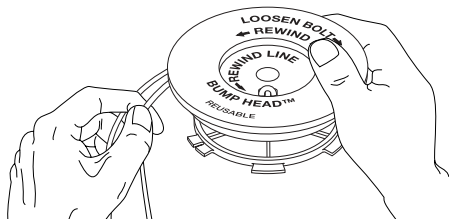

Fig. 29
- Wind the lines in tight even layers, onto the reel (Fig. 29). Wind the line in the direction indicated on the inner reel. Place your index finger between the two lines to stop the lines from overlapping. Do not overlap the ends of the line. Proceed to step 11.